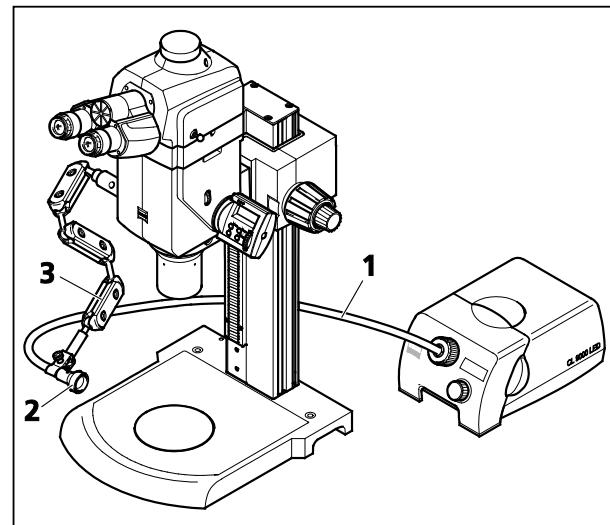
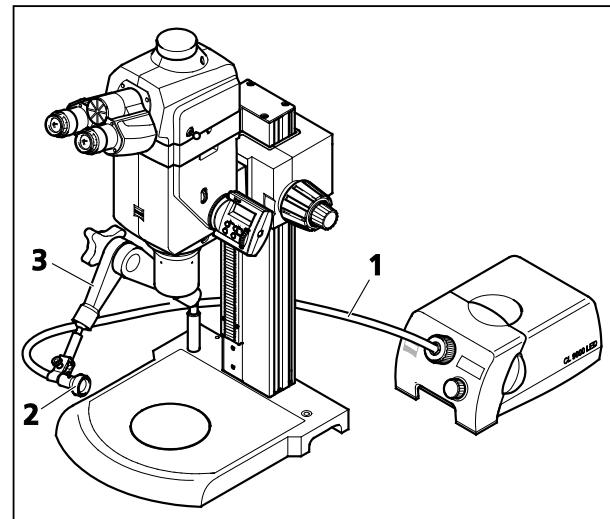

Fig. 39 Focusing attachment and light guide on the light bracket S
Fig. 40 Focusing attachment and light guide on the articulated arm S
Flexible light guide (Fig. 39/1 and Fig. 40/1) with focusing attachment (Fig. 39/2 or Fig. 40/2)
- Loosen the screws of the light bracket segments (Fig. 39/3) until all joints can be easily moved.
- Loosen the clamp screw of the articulated arm (Fig. 40/3) until all joints can be moved.